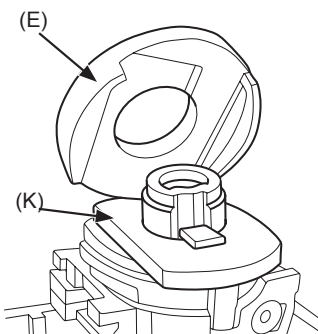
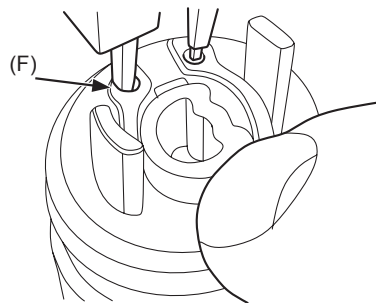

FIGURE 8.1
FIGURE 8.2
10. Put the Clutch (K) and Lever (E) into cylinder tail (Refer to Figure 8.1). Use a retainer ring priers to put the Retainer ring (F) to hold the lever and clutch. (Refer to Figure 8.2).